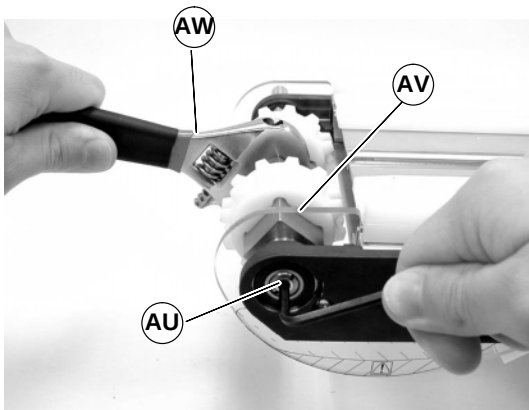

Figure 37
3. On side opposite of drive shaft, loosen pulley taper screw (AU of Figure 37) with 4mm hex-key wrench. Steady pulley (AV) with adjustable wrench (AW).